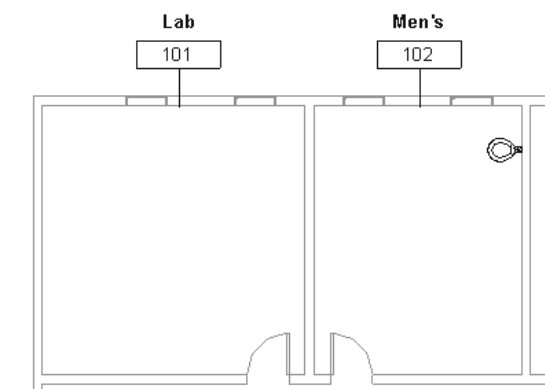

Figure 2-23
4. Click along one of the walls to place the fixture, as shown in Figure 2-23.